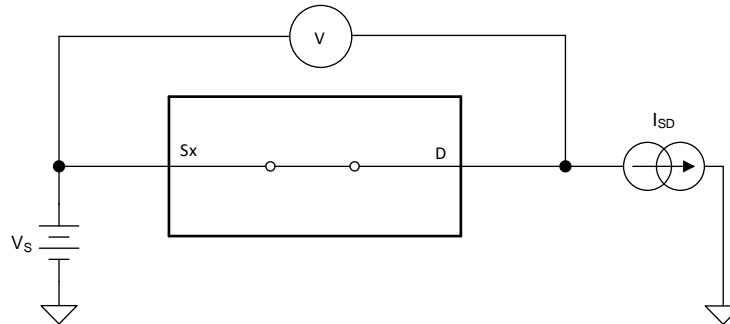

Figure 16. On-Resistance Measurement Setup
The on-resistance of a device is the ohmic resistance between the source (Sx) and drain (Dx) pins of the device. The on-resistance varies with input voltage and supply voltage. The symbol  $R_{ON}$  is used to denote on-resistance. The measurement setup used to measure  $R_{ON}$  is shown in Figure 16. Voltage (V) and current ( $I_{SD}$ ) are measured using this setup, and  $R_{ON}$  is computed with  $R_{ON} = V / I_{SD}$ :